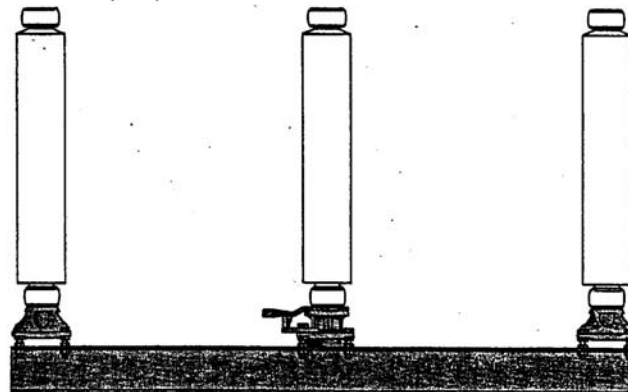

Figure 3
4. Mount the insulators as indicated in figure 3 using the bolts specified in the field assembly bolt list (SF Drawing). Be sure that the match marks made earlier line up. Check the Unit Assembly drawing; spacers may have to be discarded if a grounding switch is used.